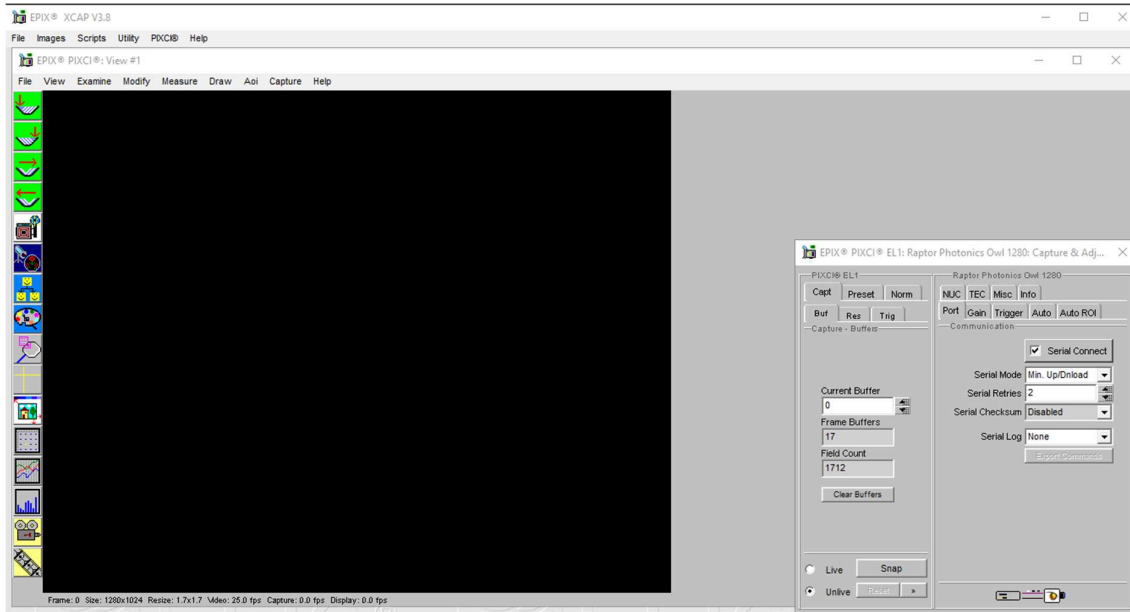

Figure 3: XCAP Camera Control Screen
5. Select Open and the viewing and control screens, Figure 3, will now open. Two windows should open, a viewing window (Left) and a control window (Right).